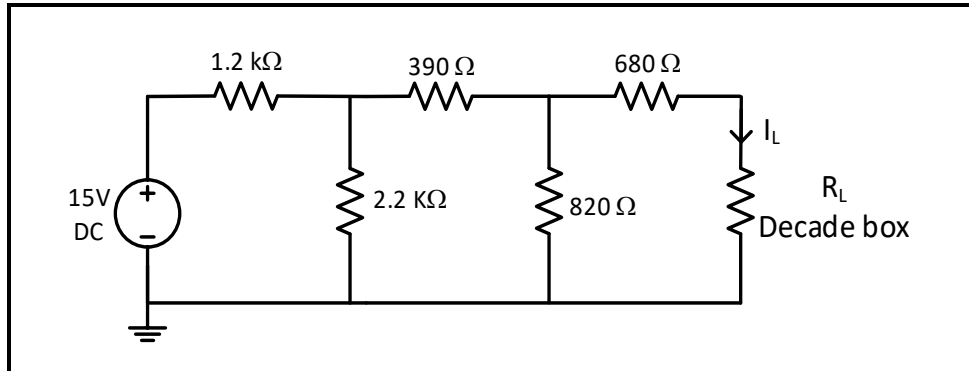

Figure 8.5
1. Make a DC sweep for R_L in the circuit of Figure 8.5 to produce a plot of (P_{LOAD} vs. R_L) for the range of values of R_L shown in Table 8.2, use cursors to find the value of R_L that results in maximum power transfer to R_L .
1. Connect the circuit of Figure 8.5, with the output of the power supply set to 15 V.